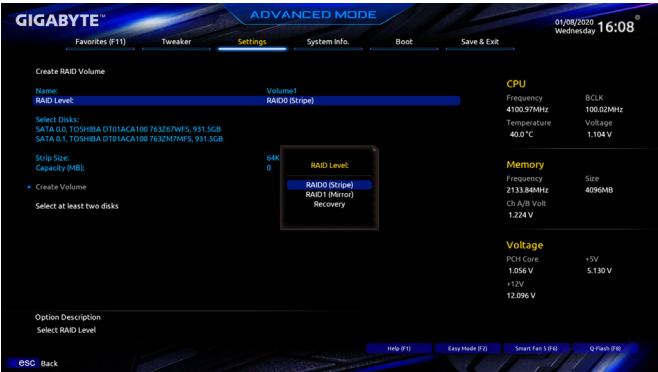

Figure 8
On the **Intel(R) Rapid Storage Technology** menu, press <Enter> on **Create RAID Volume** to enter the **Create RAID Volume** screen. Enter a volume name with 1~16 letters (letters cannot be special characters) under the **Name** item and press <Enter>. Then, select a RAID level (Figure 8). RAID levels supported include RAID 0, RAID 1, RAID 10, and RAID 5 (the selections available depend on the number of the hard drives being installed). Next, use the down arrow key to move to **Select Disks**.